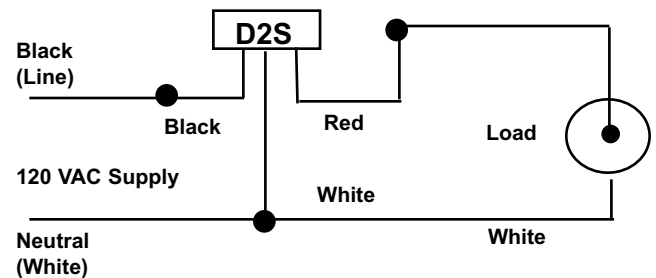

Figure 1
3. Wire the photocell in the circuit as follows: (see figure 1)